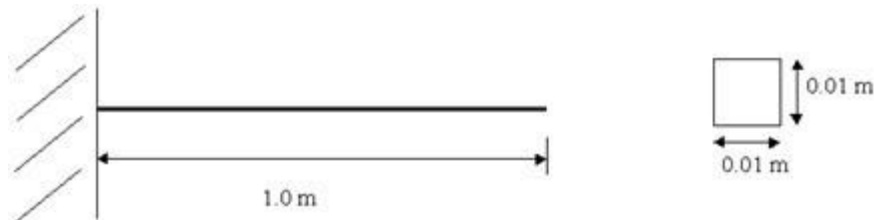

Figure 12
12. Conduct a harmonic force response analysis on the cantilever beam shown in Figure 12 by applying a cyclic load (harmonic) at the end of the beam. The frequency of load may be varied from 1-100 Hz. Modulus of Elasticity $E=206800 \times 10^6 \text{ N/m}^2$; Density $=7830 \text{ kg/m}^3$